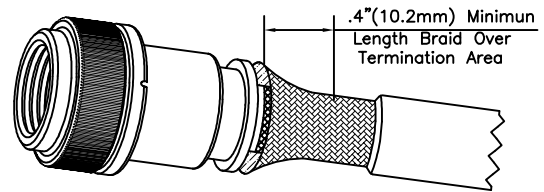

Figure-2
2. Push Braid forward over Adapter Retension Lip to the Adapter incline Point (or .4" [10.2mm] minimum braid length). Adjust Braid as required to remove slack and insure a snug fit around the shield termination area (figure-2)